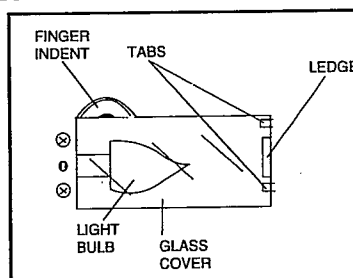

Figure 14
4. Carefully push Glass Cover all the way toward the right (away from screws). Place your index finger into Finger Indent and carefully lift Glass Cover out. See Figure 14. Carefully set Glass Cover aside.
6. Replace Glass Cover. Be sure Glass Cover fits between the ledge and the two small tabs as shown in Figure 14.